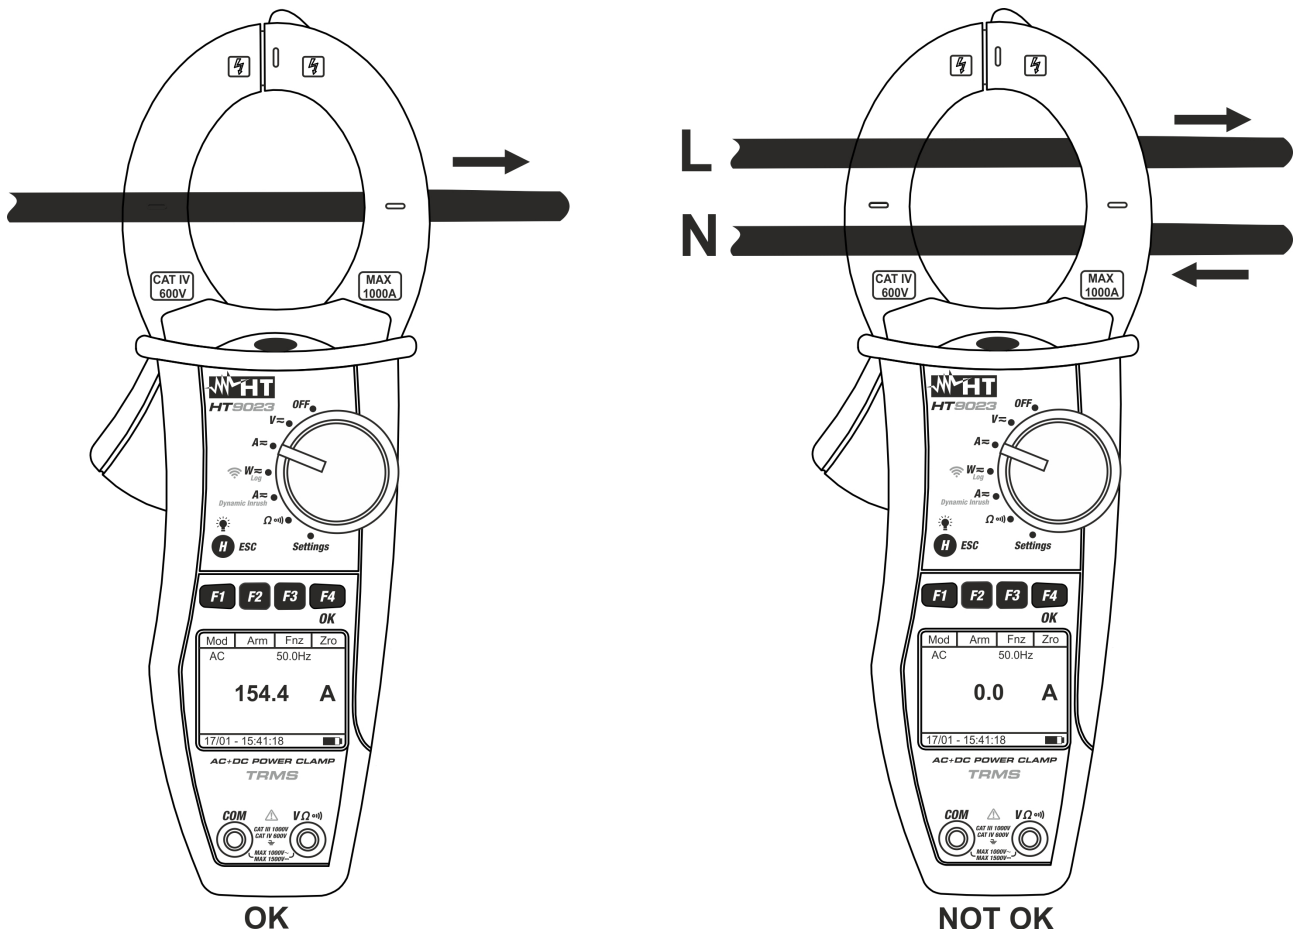

Fig. 10: AC and AC + DC current measurement
5. Connect the cable to the middle of the clamp jaws, in order to get accurate measurements (see Fig. 10 – left part). Use the marks as a reference (see Fig. 2)